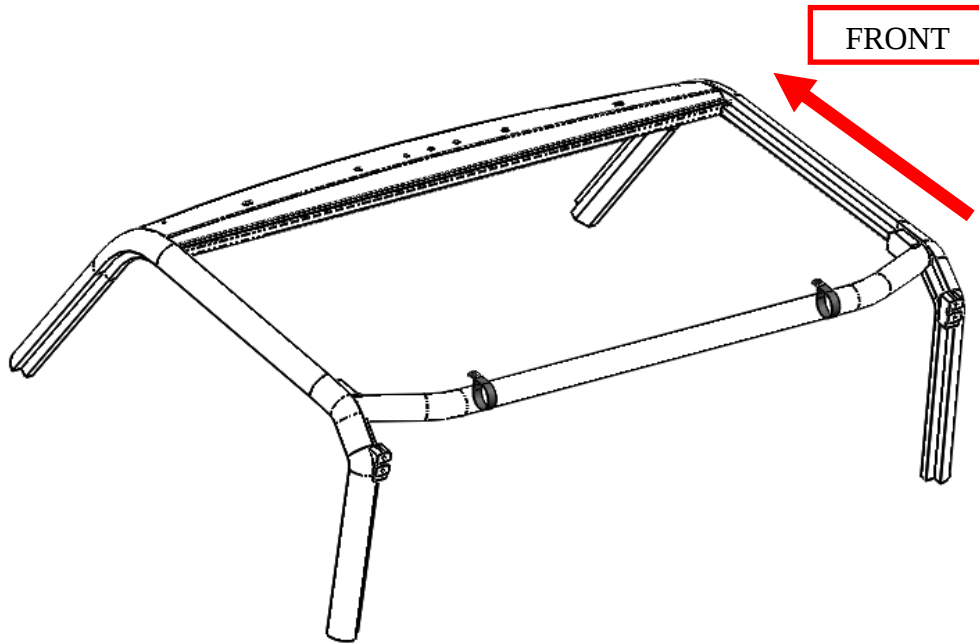

Figure 4: Approximate clamp locations.
2. Spread the clamps by hand and slide them over the cage tubing. Place them on the cage in the approximate locations shown in Figure 4. Note the orientation of the